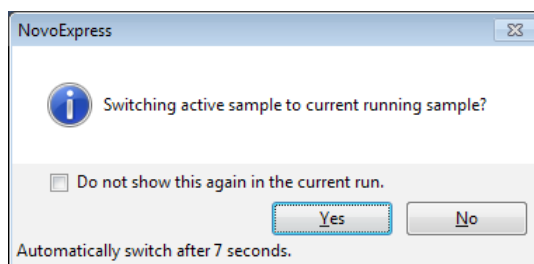

Figure 3-13 Window for Options on Determining the Active Sample during a Plate Run
- 4 During automated sample acquisition, when starting acquiring a new sample, a window shown in Figure 3-13 will be prompted. In the prompted window, user can determine if the new sample will become the Active Sample. Active Sample is the sample shown in the Workspace for data analysis and indicated by a red arrow  on the left of a sample in the *Experiment Manager* panel. Click *Yes* to make the sample to be acquired as the Active Sample so that you can observe the data for each new sample when it is acquired. Click *No* to keep the sample currently in analysis as the Active Sample so that you can continue working on the data analysis, in the meanwhile the rest of the samples are been acquired. If there is no user interference within 10 seconds after this window appears, NovoExpress Software will automatically make the new sample to be acquired as the Active Sample. Check the *Do not show this again in current run* checkbox and click *Yes* or *No* to make your selection as default for the rest of the plate run.